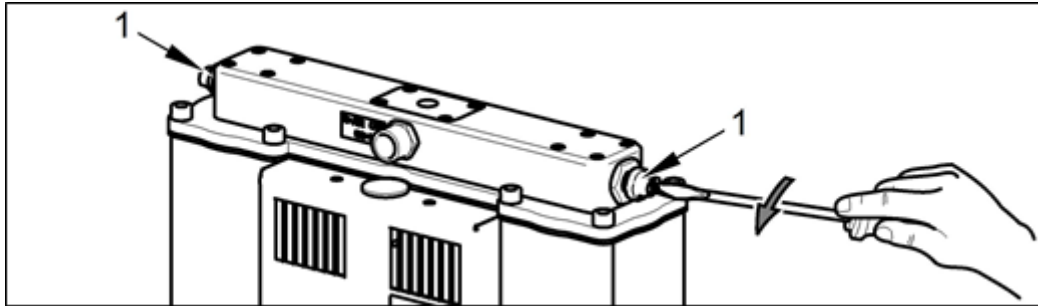

Fig. 25: Venting pressure from the dryer chambers
- Open the vent plugs on the outlet module on the equipment (Fig. 25).